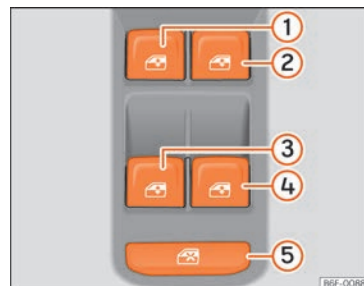

Fig. 89 Detail of the driver's door: window controls.
The safety control »» » Fig. 89 ⑤ on the driver door can be used to disable the electric window buttons on the rear doors.